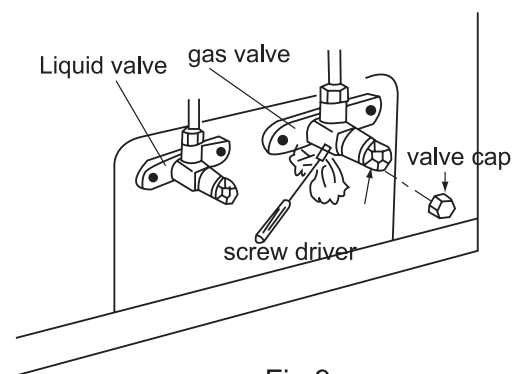

Fig.9
- 4.Open the liquid valve and gas valve entirely (shown in Fig.9).
- 4.Fully open valves.(Fig.9)